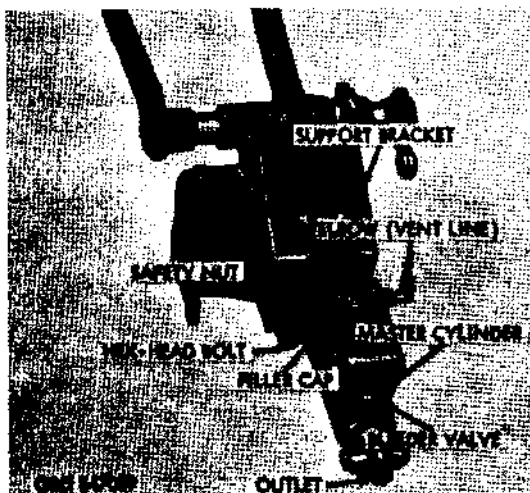

Figure 299. Rear view of brake pedal linkage and master cylinder
b. Service Brake System. The service brake system includes brake pedal linkage (fig. 299), master cylinder, air hydraulic cylinder, hydraulic lines to all wheels, wheel cylinders, brakedrums, and shoes.
d. Brake Pedal Linkage (Figs. 299 and 300). The brake pedal linkage is comprised of a pedal secured to a lever, which is pivoted on a bracket bolted to the frame left side rail. The lower end of the pedal lever is pinned to a yoke on the front end of the master-cylinder piston rod. The upper end of the pedal lever
e. Master Cylinder. The master cylinder (fig. 299), bolted to the rear of the pedal lever bracket, consists of a hydraulic fluid reservoir, hydraulic cylinder with spring-loaded piston, and a check valve mechanism. Movement of the brake pedal linkage causes the piston inside the master cylinder to force fluid from the cylinder outlet through a connecting line into the air-hydraulic cylinder ((f)below).